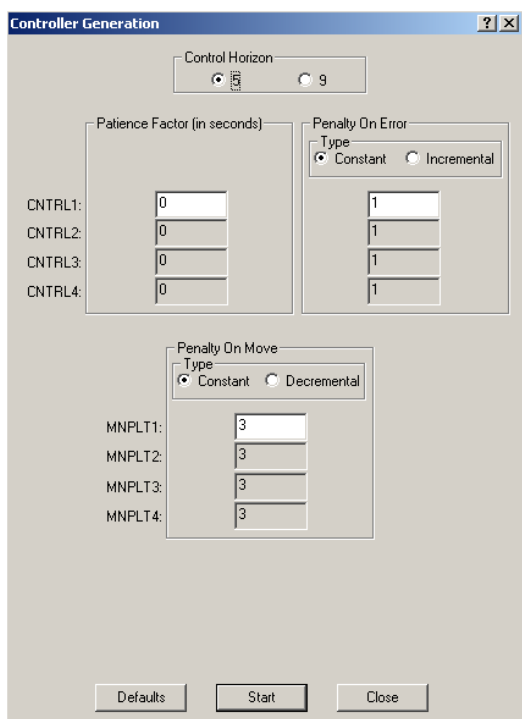

Figure 3.11 Controller generation and tuning parameters.
When the control is generated from a selected model, control parameters used to generate the control are displayed and shown in Figure 3.11. Here we can somewhat tune the controller. Normally only the Penalty On Move (PM) and Penalty On Error (PE) should be adjusted. In short: